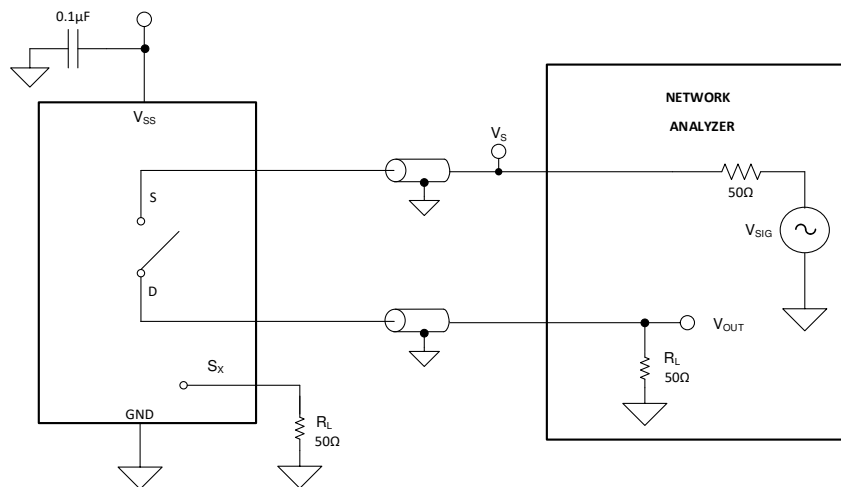

Figure 7-9. Off Isolation Measurement Setup
Off isolation is defined as the ratio of the signal at the drain pin (D) of the device when a signal is applied to the source pin (Sx) of an off-channel. Figure 7-9 shows the setup used to measure, and the equation used to calculate off isolation.